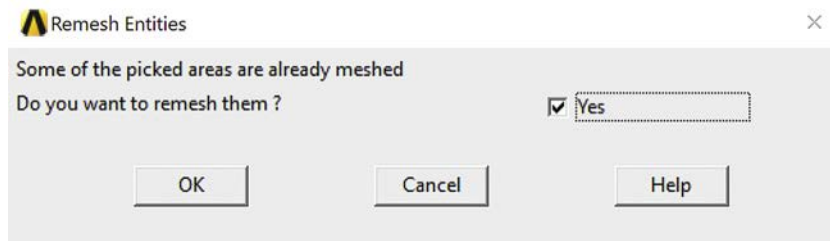

Figure 6-1-7 Confirm Remeshing.
- Confirm that you want to remesh the model by clicking OK (Figure 6-1-7)